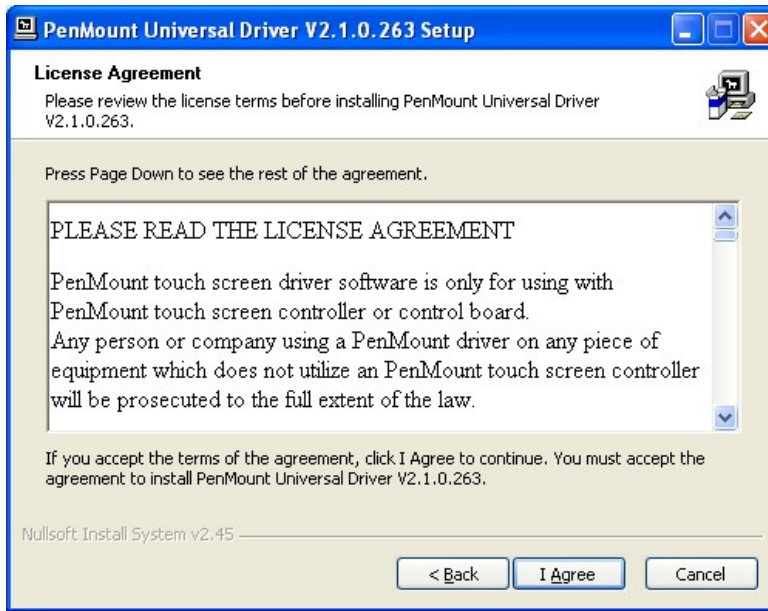

**Figure 5-21: Touch Screen Driver Welcome Screen**
**Step 4:** A **Welcome Screen** appears (**Figure 5-21**).